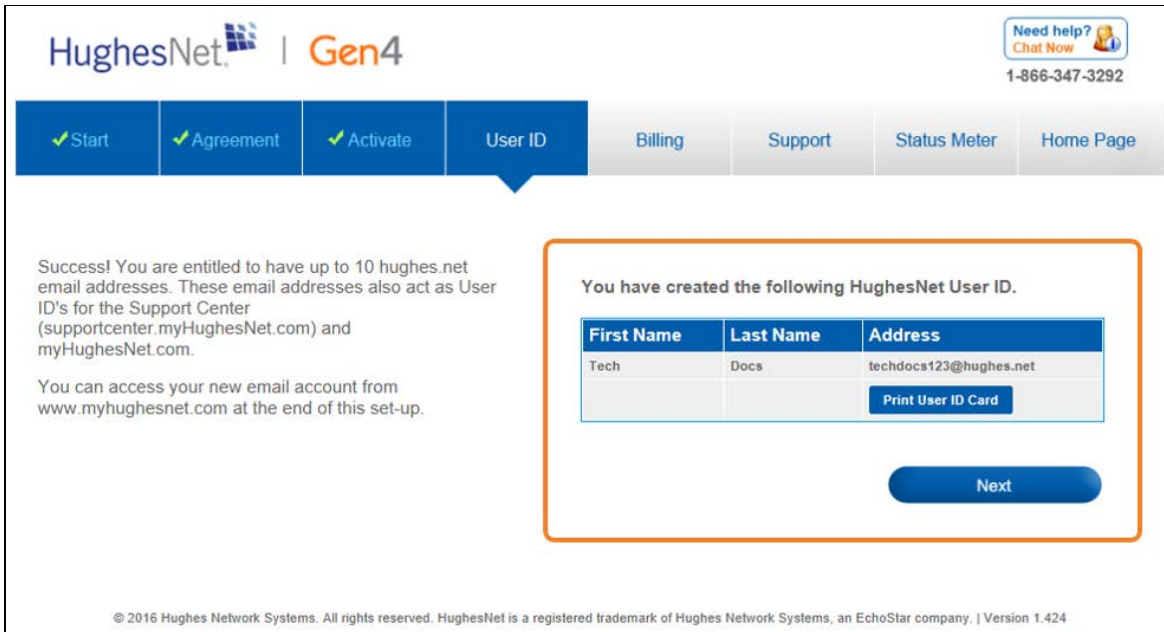

Figure 43: User ID Card screen
16. The Billing page appears, displaying a sample Order Summary, as shown in Figure 43. This page explains the types of charges the customer can expect to see on a monthly bill.